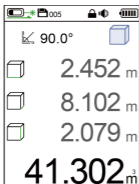

Figure 7 First measured volume
Step 1: Measure the first volume (refer to volume measurement), as shown in Figure 7;